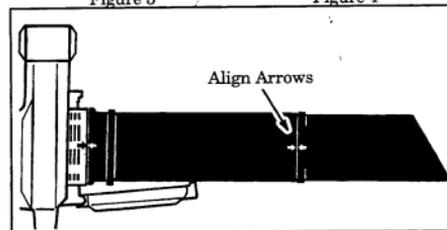

Figure 5
5. Assemble the vacuum tubes by aligning the arrow on the lower vacuum tube with the arrow on the upper vacuum tube. Figure 5. Push the two tubes together until lower vacuum tube bottoms out inside upper vacuum tube (about 3 inches). Figure 5.